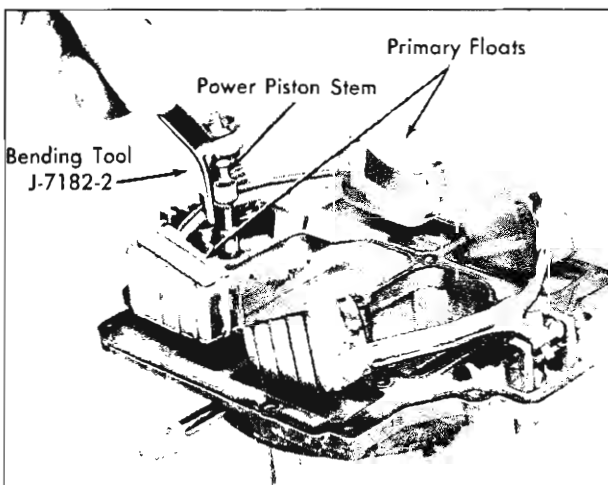

Fig. 43—Bending Primary Float Arm
4. If necessary to adjust, bend float arm at center with Bending Tool, J-7182-2, Figure 43. Use caution to prevent bending power piston stem.